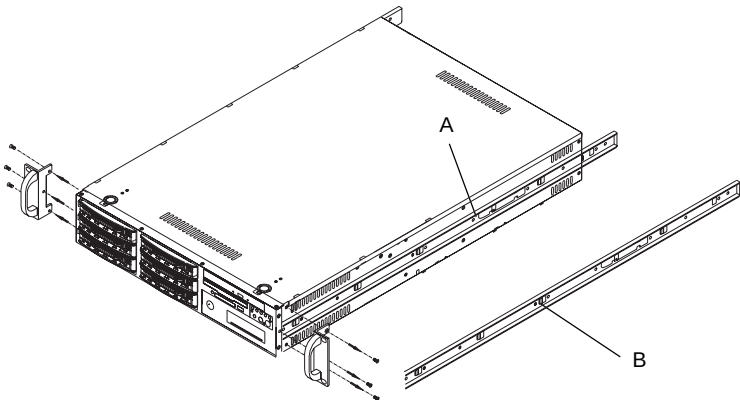
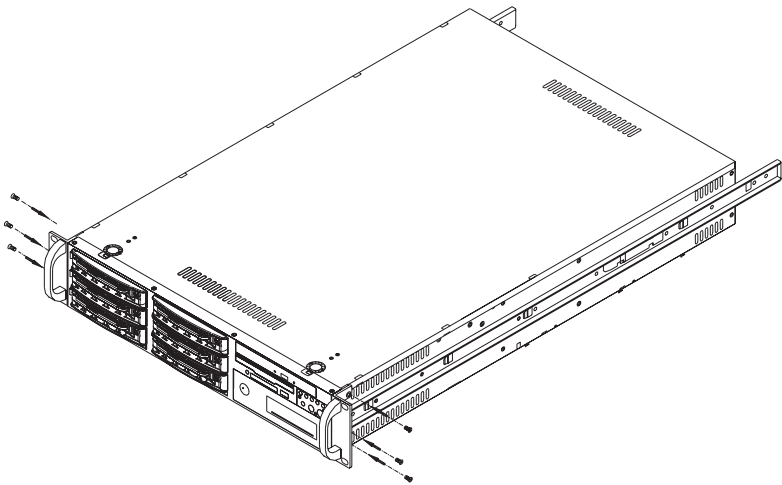

Figure 2-1. Identifying the Sections of the Rack Rails
Figure 2-2. Installing Chassis Rails
You should have received two rack rail assemblies with the SuperServer 6021F. Each of these assemblies consist of three sections: an inner fixed chassis rail that secures to the 6021F (A) and an outer fixed rack rail that secures directly to the rack itself (B). A sliding rail guide sandwiched between the two should remain attached to the fixed rack rail. (See Figure 2-1.) The A and B rails must be detached from each other to install.
Remove the handles on the 6021F chassis (see Figure 2-1) and position the fixed chassis rail sections along the side of the 6021F chassis making sure the two screw holes line up. Note that these two rails are left/right specific. Slide the rails on to the hooks on both sides of the chassis. Screw the rail securely to the side of the chassis, and then reinstall the chassis handle (see Figure 2-2). Repeat this procedure for the other rail on the other side of the chassis. You will also need to attach the rail brackets when installing into a telco rack.